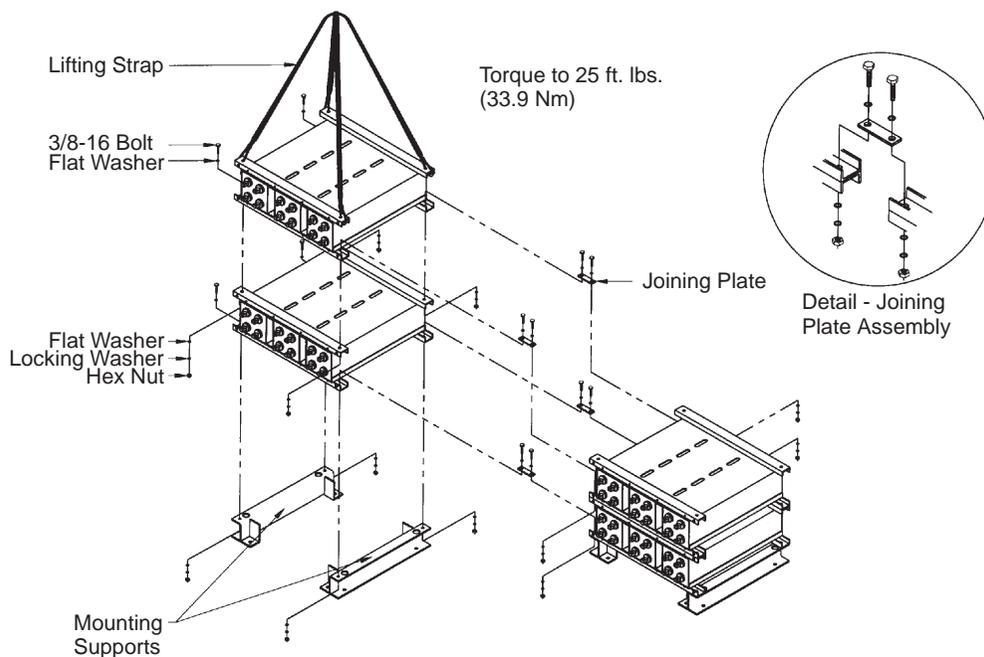

Figure 6-3: Battery Module Assembly
3. Using the two straps provided, remove the top module and bolt it onto the floor support channels. (See Figure 6-3.)